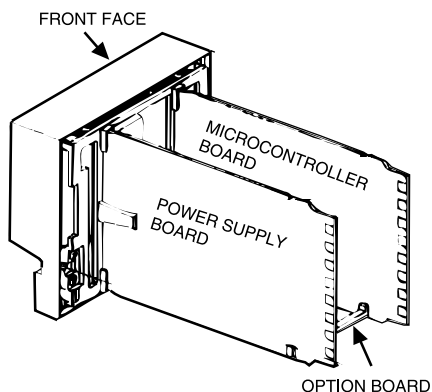

Figure 1
2. Slide the chassis out of the case by pulling on front face plate assembly at the bezel (see **Figure 1**).
16. (See **Figure 2**) Align the board assembly with the front face assembly, with the Option board at the bottom (see **Figure 1**). Reinstall the retention clips. Align the boards into the slots of the front face assembly and the clips will snap into place.